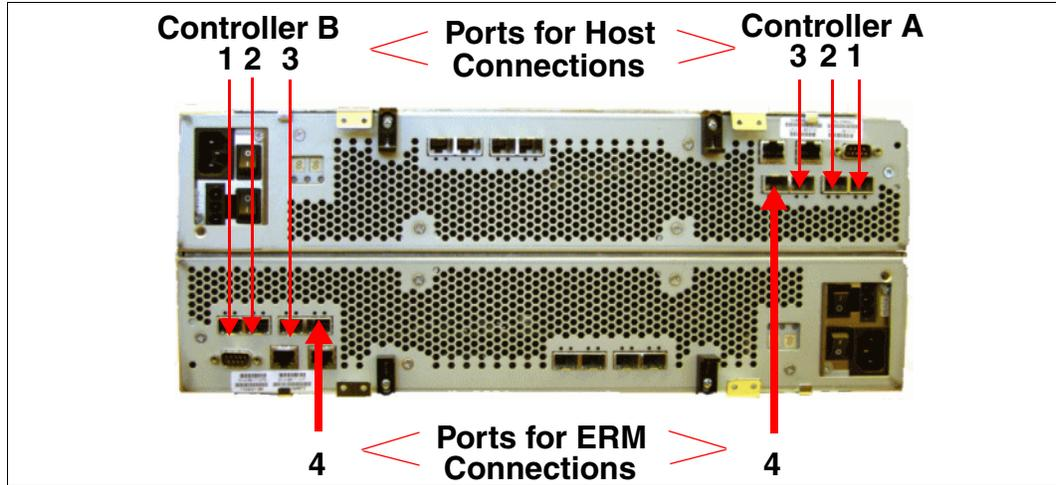
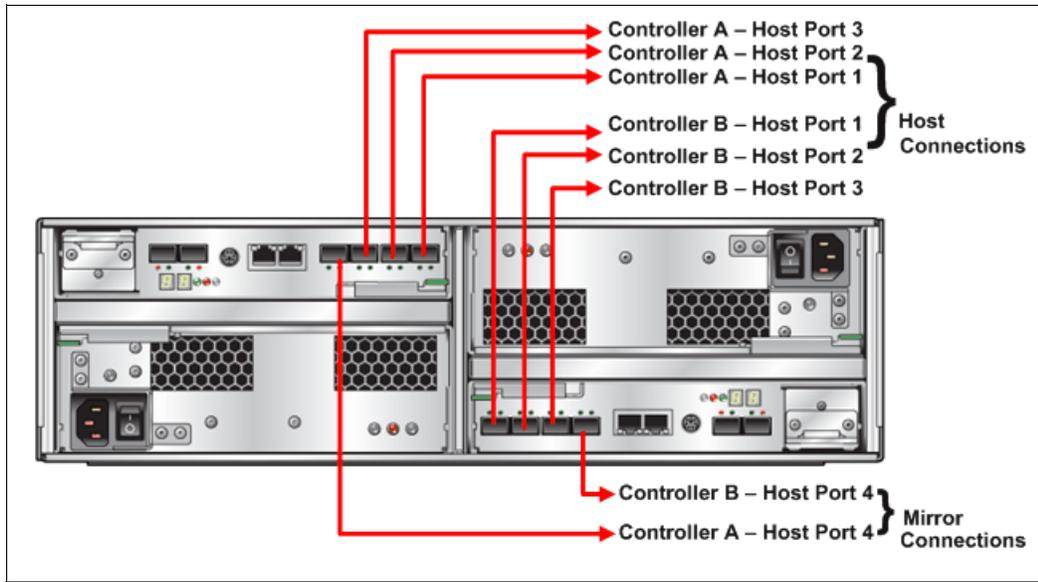

Figure 8-9 Host-side ports for host and ERM connections on the DS4800
Figure 8-13 Host-side ports for host and ERM connections on DS4700 model 72
- ▶ On the DS4800 and DS4700 Model 72, you will use the fourth host port on controllers A and B for ERM (see Figure 8-9 and Figure 8-13 on page 472 for the host port locations).